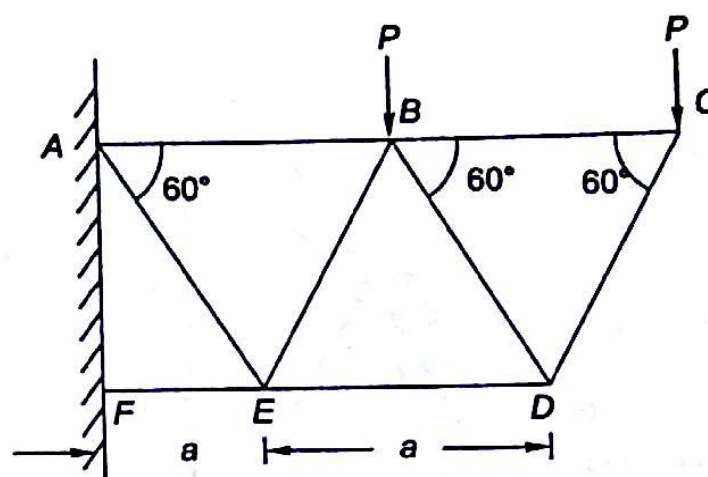

Fig. 4.39
4.10 A truss ABCDEF, shown in the Fig. 4.39 carries loads P each at joints B and C. What is the value of P if force in member AB is 3 kN? Method of section may be used